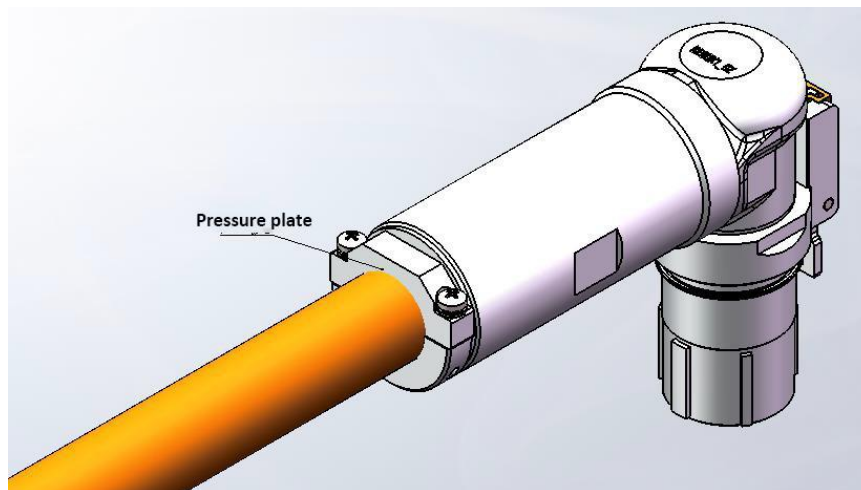

Figure 16
3.2.6 The pressure plate is installed on the tail pipe, as shown in Figure 16.